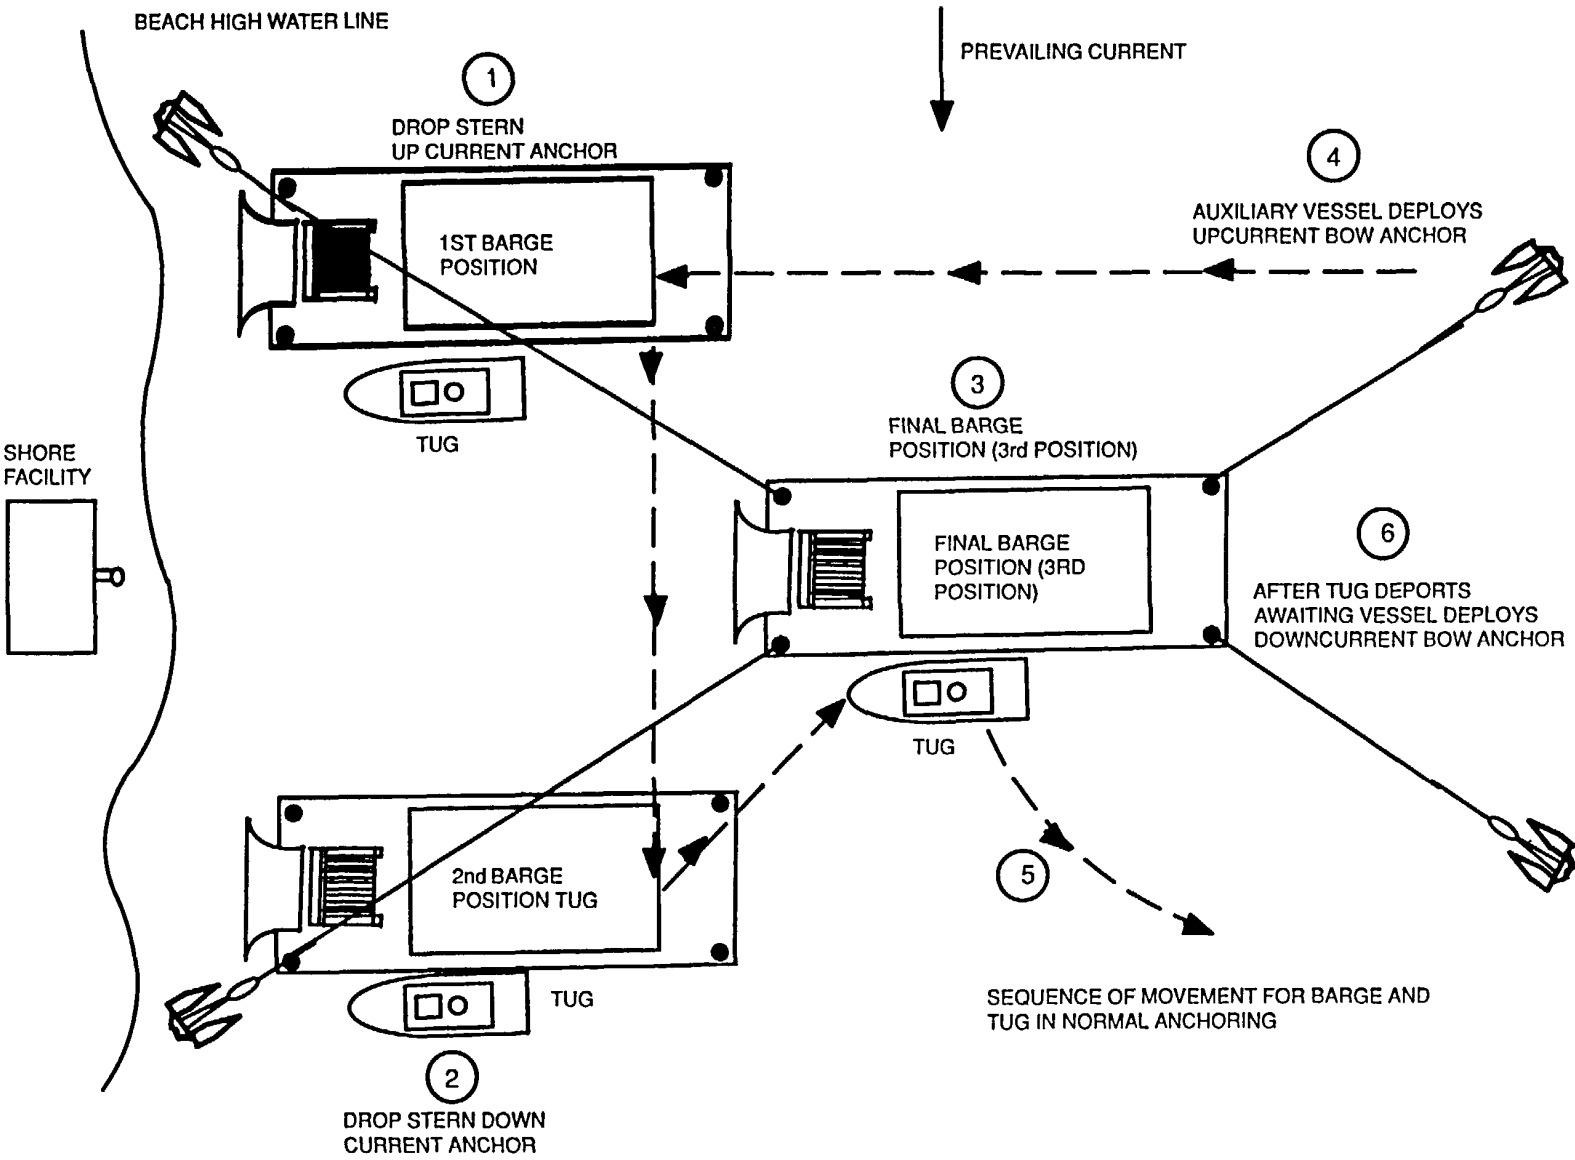

Figure 16-4. Sequence of Movements for Barge and Tug in Normal Anchoring
- c. If waterdepth permits, tug moves barge over position for upcurrent stem anchor (Figure 16-4). If waterdepth does NOT permit tug to move in this close to shore, see modified anchoring procedures in paragraph 16-15.